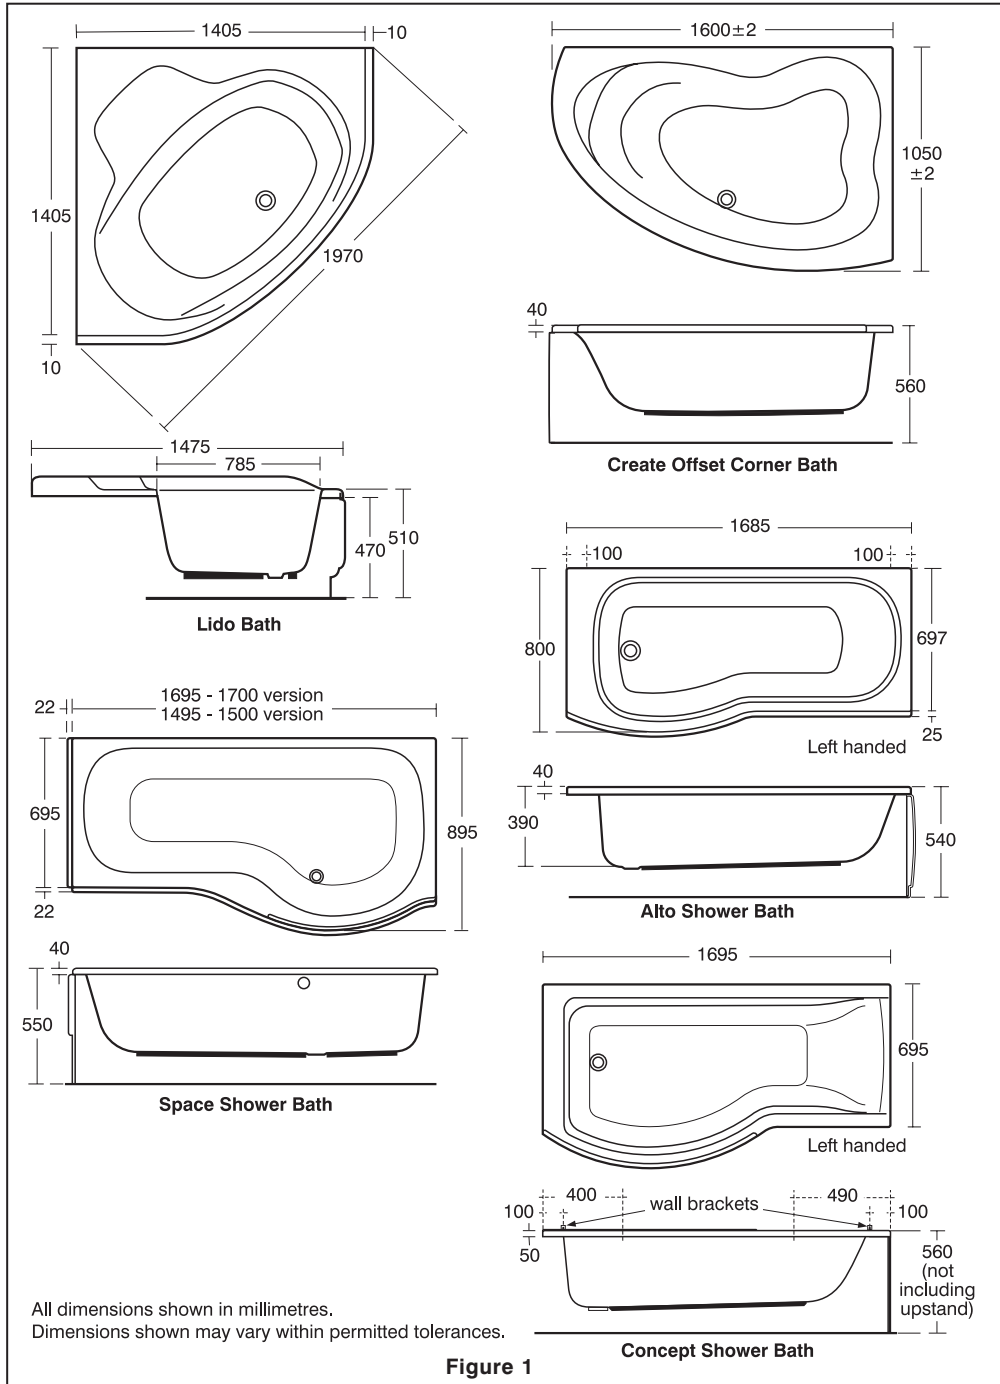

Figure 1
3. Place bath in position and set to correct height, see Figure 1. Fix bath to wall. Fix bath to floor ensuring that all nuts are tight.